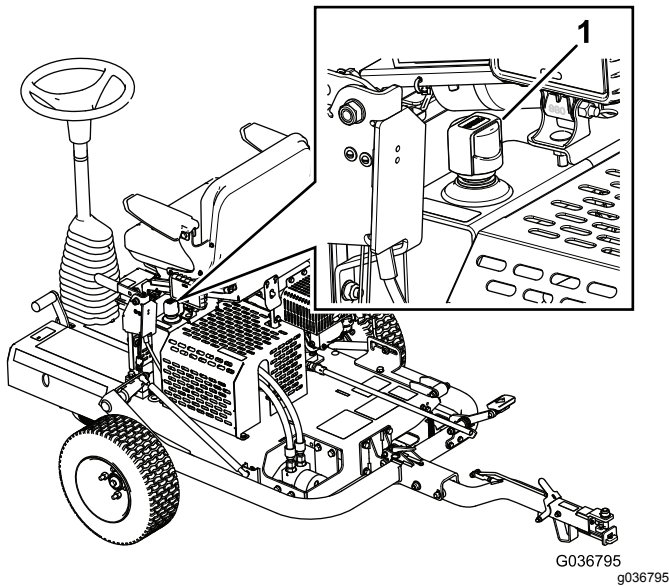

Figure 21
3. Remove the hydraulic-tank cap and check the fluid level on the dipstick (Figure 21).